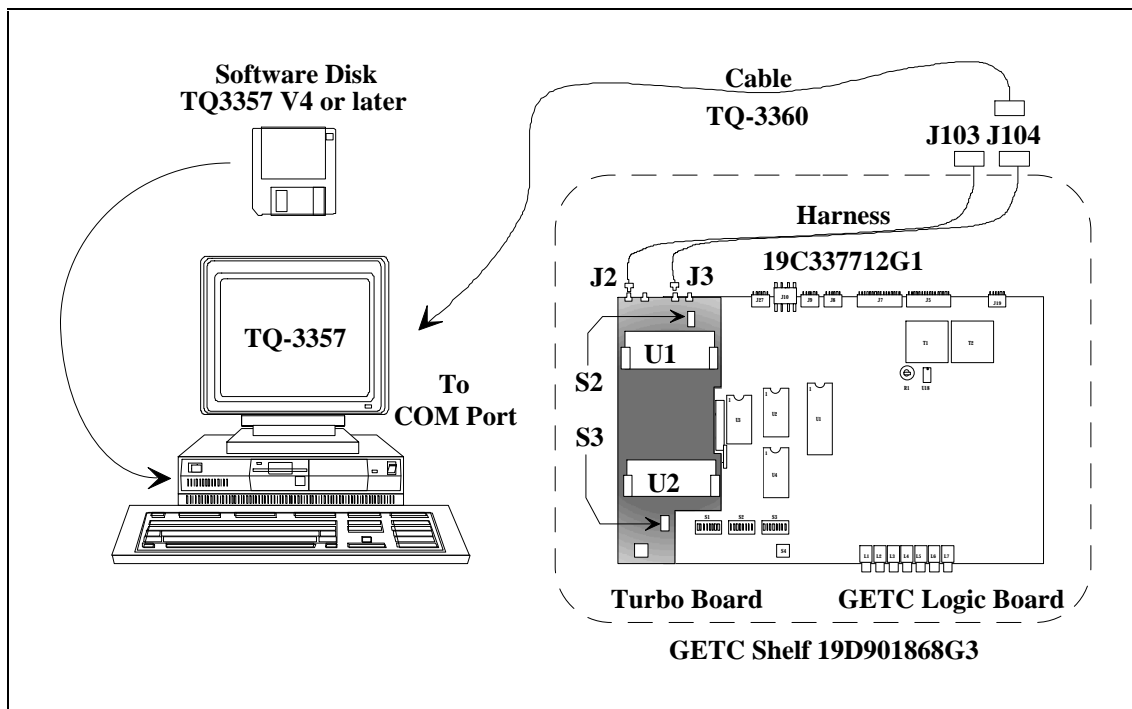

Figure 14 - System Hook-Up Using J104
1. One end of the serial programming cable (TQ-3360) should be connected to the computer. The other end of the serial cable connects to the GETC Shelf connector J104. See Figure 14.
2. Move Switch S2 on the Turbo Board to the front placing the GETC into the Personality Programming mode. See Figure 14.